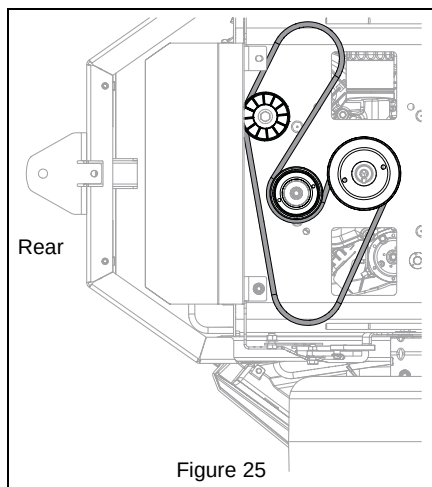

Figure 25
1. Install ground drive belt. See Figure 25.